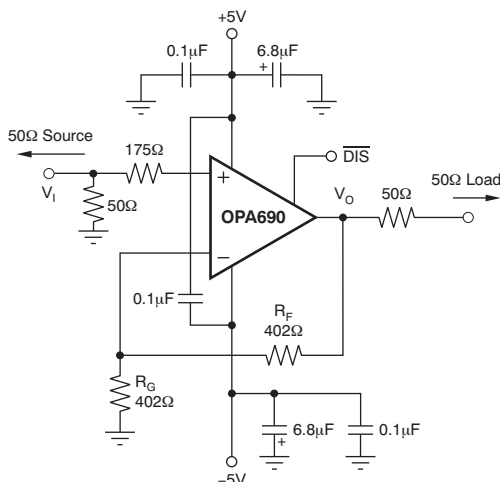
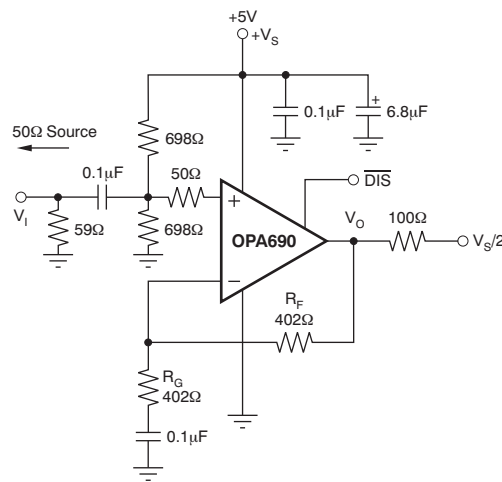
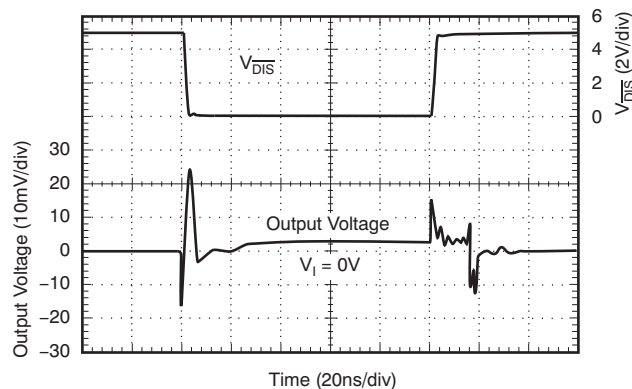

Figure 36. DC-Coupled, G = 2, Bipolar-Supply Specification and Test Circuit
Figure 37. AC-Coupled, G = 2, Single-Supply Specification and Test Circuit
Figure 44. Disable or Enable Glitch
$T_A = 25^\circ\text{C}$, $G = 2$, $R_F = 402\ \Omega$, and $R_L = 100\ \Omega$; see Figure 36 for AC performance only (unless otherwise noted)
$T_A = 25^\circ\text{C}$, $G = 2$, $R_F = 402\ \Omega$, and $R_L = 100\ \Omega$; see Figure 37 for AC performance only (unless otherwise noted)
Figure 36 shows the DC-coupled, gain of 2, dual power supply circuit configuration used as the basis of the ± 5 V and *Typical Characteristics: $V_S = \pm 5$ V*. For test purposes, the input impedance is set to 50 Ω with a resistor to ground and the output impedance is set to 50 Ω with a series output resistor. Voltage swings reported in the specifications are taken directly at the input and output pins, while output powers (dBm) are at the matched 50- Ω load. For the circuit of Figure 36, the total effective load is 100 $\Omega \parallel 804 \Omega$. The disable control line is typically left open to ensure normal amplifier operation. Two optional components are included in Figure 36. An additional resistor (175 Ω) is included in series with the noninverting input. Combined with the 25- Ω DC source resistance looking back towards the signal generator, this gives an input bias current cancelling resistance that matches the 200- Ω source resistance seen at the inverting input (see *DC Accuracy and Offset Control*). In addition to the usual power-supply decoupling capacitors to ground, a 0.1- μ F capacitor is included between the two power-supply pins. In practical printed-circuit board (PCB) layouts, this optional-added capacitor typically improves the 2nd-harmonic distortion performance by 3 dB to 6 dB.
Figure 37 shows the AC-coupled, gain of 2, single-supply circuit configuration which is the basis of the 5 V and *Typical Characteristics: 5 V*. Though not a rail-to-rail design, the OPA690 requires minimal input and output voltage headroom compared to other very wideband voltage-feedback op amps. It delivers a 3-V_{PP} output swing on a single 5-V supply with > 150-MHz bandwidth. The key requirement of broadband single-supply operation is to maintain input and output signal swings within the useable voltage ranges at both the input and the output. The circuit of Figure 37 establishes an input midpoint bias using a simple resistive divider from the 5-V supply (two 698-Ω resistors). The input signal is then AC-coupled into the midpoint voltage bias. The input voltage can swing to within 1.5 V of either supply pin, giving a 2-V_{PP} input signal range centered between the supply pins. The input impedance matching resistor (59 Ω) used for testing is adjusted to give a 50-Ω input load when the parallel combination of the biasing divider network is included.
Voltage-feedback op amps exhibit decreasing closed-loop bandwidth as the signal gain is increased. In theory, this relationship is described by the gain bandwidth product (GBP) shown in the *Electrical Characteristics: $V_S = \pm 5$ V*. Ideally, dividing GBP by the noninverting signal gain (also called the Noise Gain, or NG) predicts the closed-loop bandwidth. In practice, this only holds true when the phase margin approaches 90°, as it does in high gain configurations. At low gains (increased feedback factors), most amplifiers exhibit a more complex response with lower phase margin. The OPA690 is compensated to give a slightly peaked response in a noninverting gain of 2 (see Figure 36). This results in a typical gain of 2 bandwidth of 220 MHz, far exceeding that predicted by dividing the 300 MHz GBP by 2. Increasing the gain causes the phase margin to approach 90° and the bandwidth to more closely approach the predicted value of (GBP/NG). At a gain of 10, the 30-MHz bandwidth shown in *Electrical Characteristics: $V_S = \pm 5$ V* agrees with that predicted using the simple formula and the typical GBP of 300 MHz.
The frequency response in a gain of 2 may be modified to achieve exceptional flatness simply by increasing the noise gain to 2.5. One way to do this, without affecting the 2 signal gain, is to add an 804- Ω resistor across the two inputs in the circuit of Figure 36. A similar technique may be used to reduce peaking in unity-gain (voltage follower) applications. For example, by using a 402- Ω feedback resistor along with a 402- Ω resistor across the two op amp inputs, the voltage follower response is similar to the gain of 2 response of Figure 37. Reducing the value of the resistor across the op amp inputs further limits the frequency response due to increased noise gain.
Because the OPA690 is a general-purpose, wideband voltage-feedback op amp, all of the familiar op amp application circuits are available to the designer. Inverting operation is one of the more common requirements and offers several performance benefits. Figure 38 shows a typical inverting configuration where the I/O impedances and signal gain from Figure 36 are retained in an inverting circuit configuration.
The second major consideration, touched on in the previous paragraph, is that the signal source impedance becomes part of the noise gain equation and influences the bandwidth. For the example in Figure 38, the R_M value combines in parallel with the external 50- Ω source impedance, yielding an effective driving impedance of $50\ \Omega \parallel 67\ \Omega = 28.6\ \Omega$. This impedance is added in series with R_G for calculating the noise gain (NG). The resultant NG is 2.8 for Figure 38, as opposed to only 2 if R_M could be eliminated as discussed above. Therefore, the bandwidth is slightly lower for the gain of ± 2 circuit of Figure 38 than for the gain of 2 circuit of Figure 36.
The OPA690 provides good distortion performance into a 100-Ω load on ±5-V supplies. Relative to alternative solutions, it provides exceptional performance into lighter loads and/or operating on a single 5-V supply. Generally, until the fundamental signal reaches very high frequency or power levels, the 2nd-harmonic dominates the distortion with a negligible 3rd-harmonic component. Focusing then on the 2nd-harmonic, increasing the load impedance improves distortion directly. Remember that the total load includes the feedback network; in the noninverting configuration (see Figure 36), this is sum of $R_F + R_G$, while in the inverting configuration it is just R_F . Also, providing an additional supply-decoupling capacitor (0.1 μF) between the supply pins (for bipolar operation) improves the 2nd-order distortion slightly (3 dB to 6 dB).
Evaluating these two equations for the OPA690 circuit and component values (see Figure 36) gives a total output spot noise voltage of 12.3 nV/√Hz and a total equivalent input spot noise voltage of 6.1 nV/√Hz. This is including the noise added by the bias current cancellation resistor (175 Ω) on the noninverting input. This total input-referred spot noise voltage is only slightly higher than the 5.5-nV/√Hz specification for the op amp voltage noise alone. This is the case as long as the impedances appearing at each op amp input are limited to the previously recommend maximum value of 300 Ω. Keeping both (R_F || R_G) and the noninverting input source impedance less than 300 Ω satisfies both noise and frequency response flatness considerations. Because the resistor-induced noise is relatively negligible, additional capacitive decoupling across the bias current cancellation resistor (R_B) for the inverting op amp configuration of Figure 38 is not required.
The balanced input stage of a wideband voltage-feedback op amp allows good output DC accuracy in a wide variety of applications. The power-supply current trim for the OPA690 gives even tighter control than comparable amplifiers. Although the high-speed input stage does require relatively high input bias current (typically ±8 μA at each input terminal), the close matching between them may be used to reduce the output DC error caused by this current. The total output offset voltage may be considerably reduced by matching the DC source resistances appearing at the two inputs. This reduces the output dc error due to the input bias currents to the offset current times the feedback resistor. Evaluating the configuration of Figure 36, and using worst-case 25°C input offset voltage and current specifications, gives a worst-case output offset voltage equal to:
One key parameter in disable operation is the output glitch when switching in and out of the disabled mode. Figure 44 shows these glitches for the circuit of Figure 36 with the input signal at 0 V. The glitch waveform at the output pin is plotted along with the \overline{DIS} pin voltage.
The transition edge rate (dV/dt) of the \overline{DIS} control line influences this glitch. For the plot of Figure 44, the edge rate was reduced until no further reduction in glitch amplitude was observed. This approximately 1-V/ns maximum slew rate may be achieved by adding a simple RC filter into the \overline{DIS} pin from a higher speed logic line. If extremely fast transition logic is used, a 1-k Ω series resistor between the logic gate and the \overline{DIS} input pin provides adequate bandlimiting using just the parasitic input capacitance on the \overline{DIS} pin while still ensuring adequate logic level swing.
A good rule of thumb is to target the parallel combination of R_F and R_G (see Figure 36) to be less than approximately 300 Ω. The combined impedance $R_F \parallel R_G$ interacts with the inverting input capacitance, placing an additional pole in the feedback network and thus, a zero in the forward response. Assuming a 2-pF total parasitic on the inverting node, holding $R_F \parallel R_G < 300$ Ω keeps this pole above 250 MHz. By itself, this constraint implies that the feedback resistor R_F can increase to several kΩ at high gains. This is acceptable as long as the pole formed by R_F and any parasitic capacitance appearing in parallel is kept out of the frequency range of interest.
As a worst-case example, compute the maximum T_J using an OPA690-DBV (6-pin SOT-23 package) in the circuit of Figure 36 operating at the maximum specified ambient temperature of 85°C and driving a grounded 20-Ω load.
The *Single-Supply ADC Driver* shows one possible (inverting) interface. Figure 45 shows the test circuit of Figure 37 modified for a capacitive (ADC) load and with an optional output pulldown resistor (R_B).